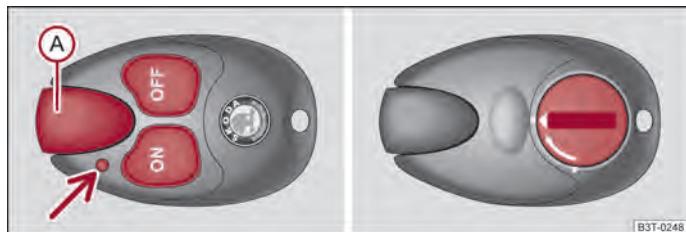

Fig. 113 Auxiliary heating: Radio remote control/bottom of the radio remote control with the battery cover
If the battery is properly charged, the effective range is up to 600 m. For switching on or off the auxiliary heating, hold the remote control vertically with the antenna  ⇒ fig. 113 towards the top. You must not cover over the antenna with the fingers or the palm of the hand. Obstacles between the radio remote control and the vehicle, bad weather conditions and a weaker battery can clearly reduce the range.
The warning light in the radio remote control ⇒ fig. 113 indicates after a keystroke if the remote control signal was received by the auxiliary heating and if the battery is adequately charged.
If the warning light of the radio remote control indicates a weak or discharged battery, ⇒ fig. 113, it must be replaced. The battery is located under a cover on the back of the radio remote control.
- Insert a flat, blunt object, such as a coin, into the gap of the battery cover, turn it against the direction of the arrow up to the mark, and unlock the cover ⇒ fig. 113 - right.